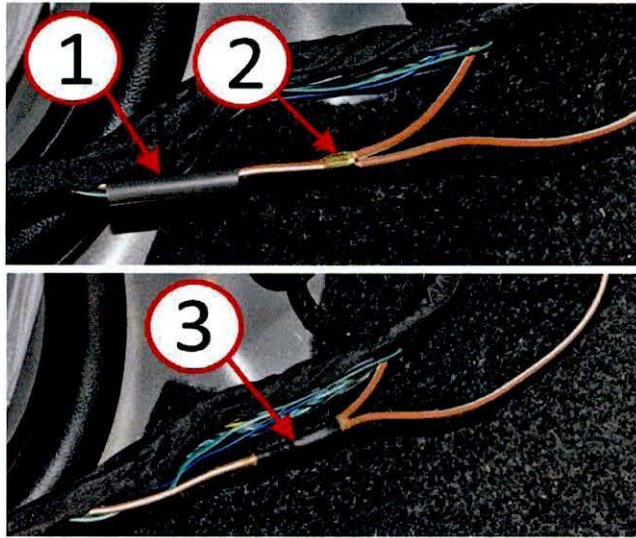

**Fig. 9 Locate Circuit Wire C15 In Rear Body Harness**
14. Remove the abrasion tape from at least 150mm (6.0 in.) of the rear body wire harness (driver side) and locate the heated backlite wire (Brown/White) (Fig. 9).